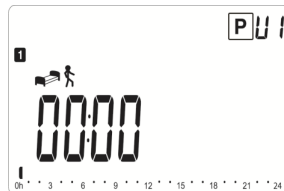

Fig. 16
- 4) press the button (OK) for at least 1 second;
- 5) press (OK) to confirm your choice; the screen in Fig. 16 will appear.